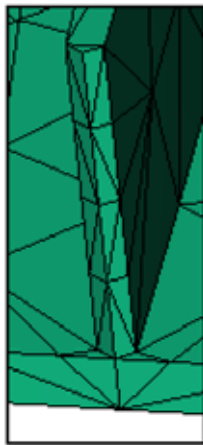

Figure 159: Rib edge remeshed
- The remeshed rib should look like Figure 159.